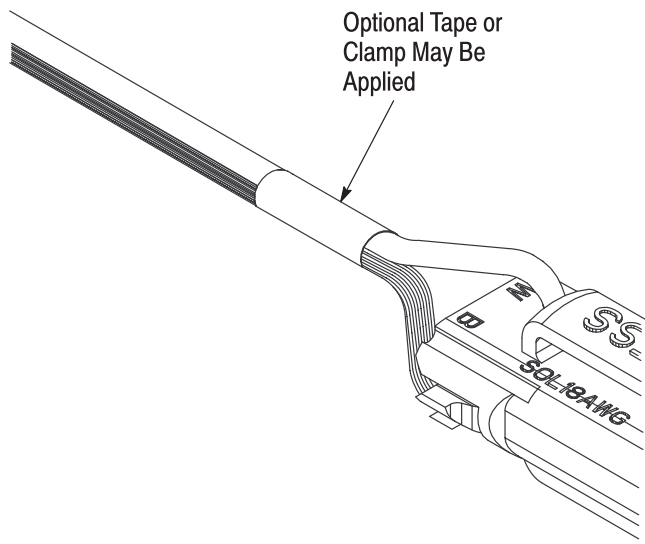

Figure 7
6. Apply optional approved flammability rated tape or clamp to organize the wires. See Figure 7.